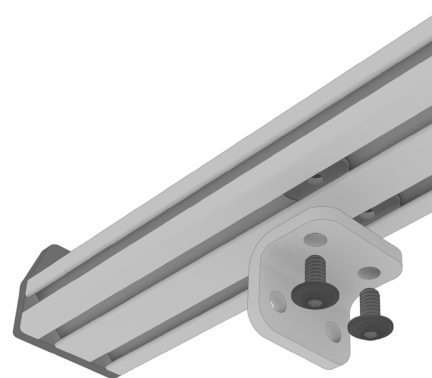

FIG 8
3.3 Attach Crossbar Bracket to Crossbar: Take a **Crossbar Bracket** and position it against the surface of the **Crossbar**. Make sure it is in the orientation as shown in **FIG 8** that has the mounting flanges facing inward. Loosely attach to **T-Nuts** using (2ea) 1/4-20 x 0.5 **Flanged Button Head Hex Drive Screws** (FIG 8).